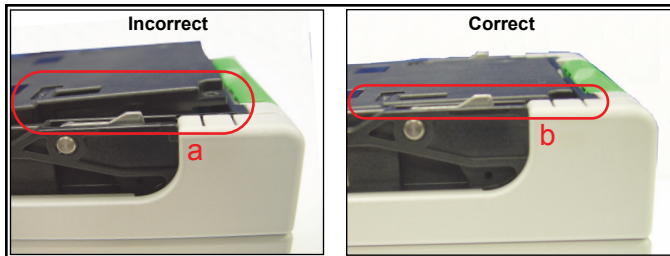

Figure 2: iVIZION Bottom Cover Installation - Incorrect (a) / Correct (b)
Answer: Whenever the iVIZION Unit's Transport Motor Gear Assembly is removed and replaced, the Unit's two (2) Motor Ferrite cores must be placed in their proper positions. Otherwise, the bottom cover will not sit flush (level) with the edge of the Unit (**Figure 2 a**), and pressure from the cover will cause the Ferrite Cores to break. For proper installation, use the following procedure:
2. Replace the Bottom Cover on the iVIZION Unit. The cover should drop into the proper position without applying force (**Figure 2 b**).